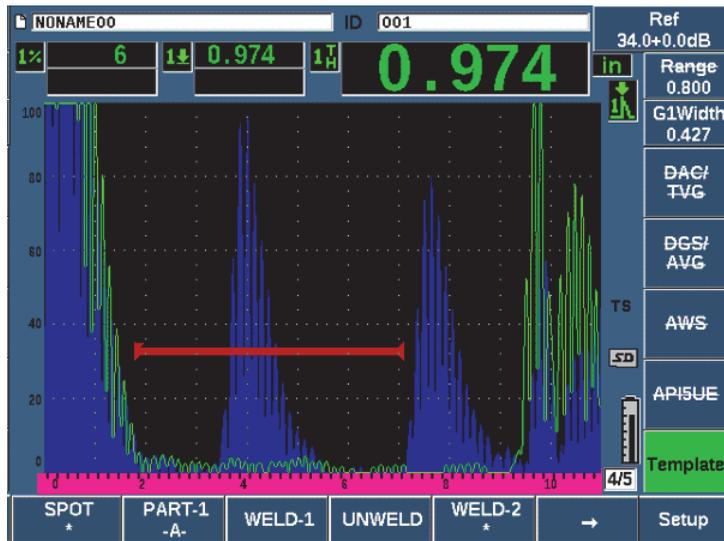

Figure 11-50 Stored template display in live screen
- ◆ Press one of the parameter keys (P1–P5) that appears with a * symbol below the template name (see Figure 11-50 on page 295).